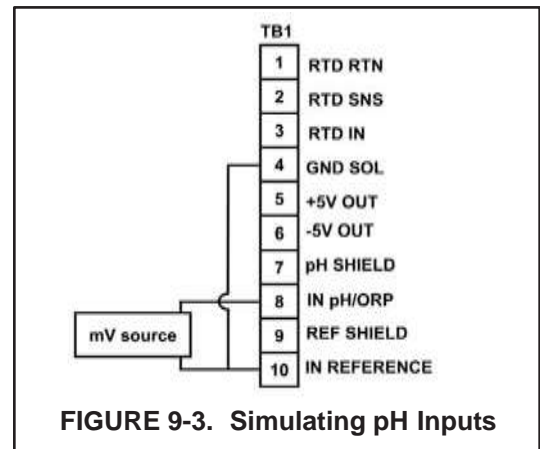

FIGURE 9-3. Simulating pH Inputs
4. If a standard millivolt source is available, disconnect the jumper wire between IN REFERENCE and IN pH and connect the voltage source as shown in Figure 9-3. Be sure to jumper the IN REFERENCE and GND SOL.